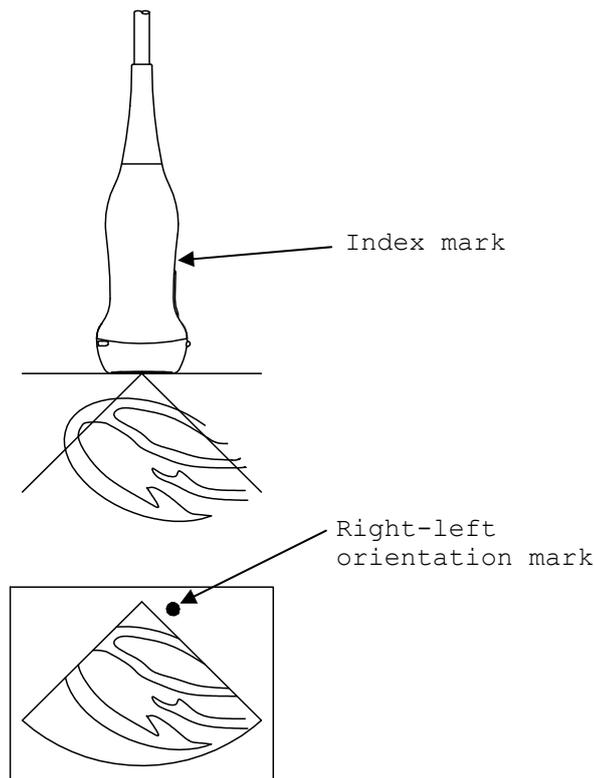

Fig. 2 Relationship between Index Mark
- 3) Relationship between direction of the probe and the image is shown in **Fig. 2**. The right-left orientation mark on the image indicates the direction of the index mark on the probe.